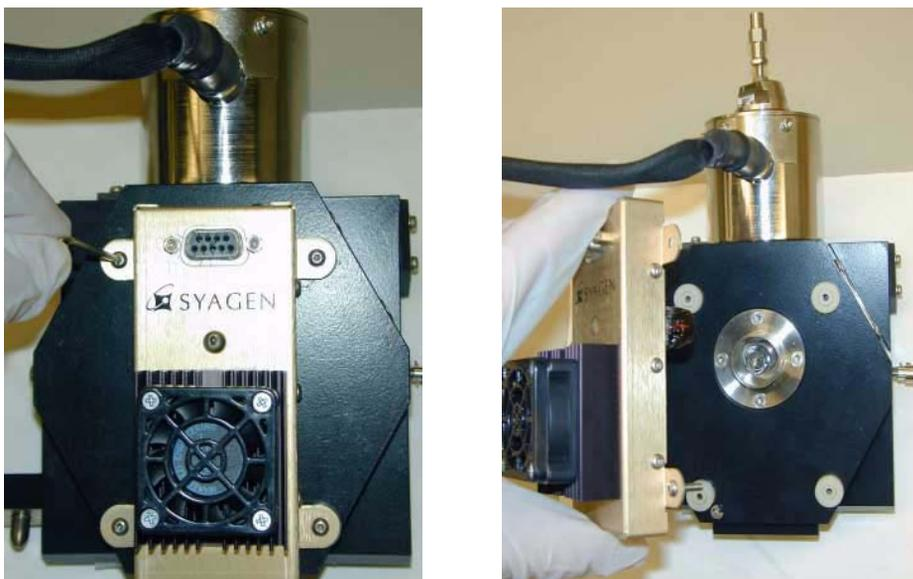

Figure 34 Use a 2 mm Hex Key (left) and Nylon Insulators
- a** Use a 2 mm Hex Key to remove the four screws securing the APPI Lamp Drive Module. Store the screws in a safe location. See Figure 34, left.
Keep track of the nylon insulators underneath the Lamp Drive Module. They will fall off of the source and tend to roll. See Figure 34, right.